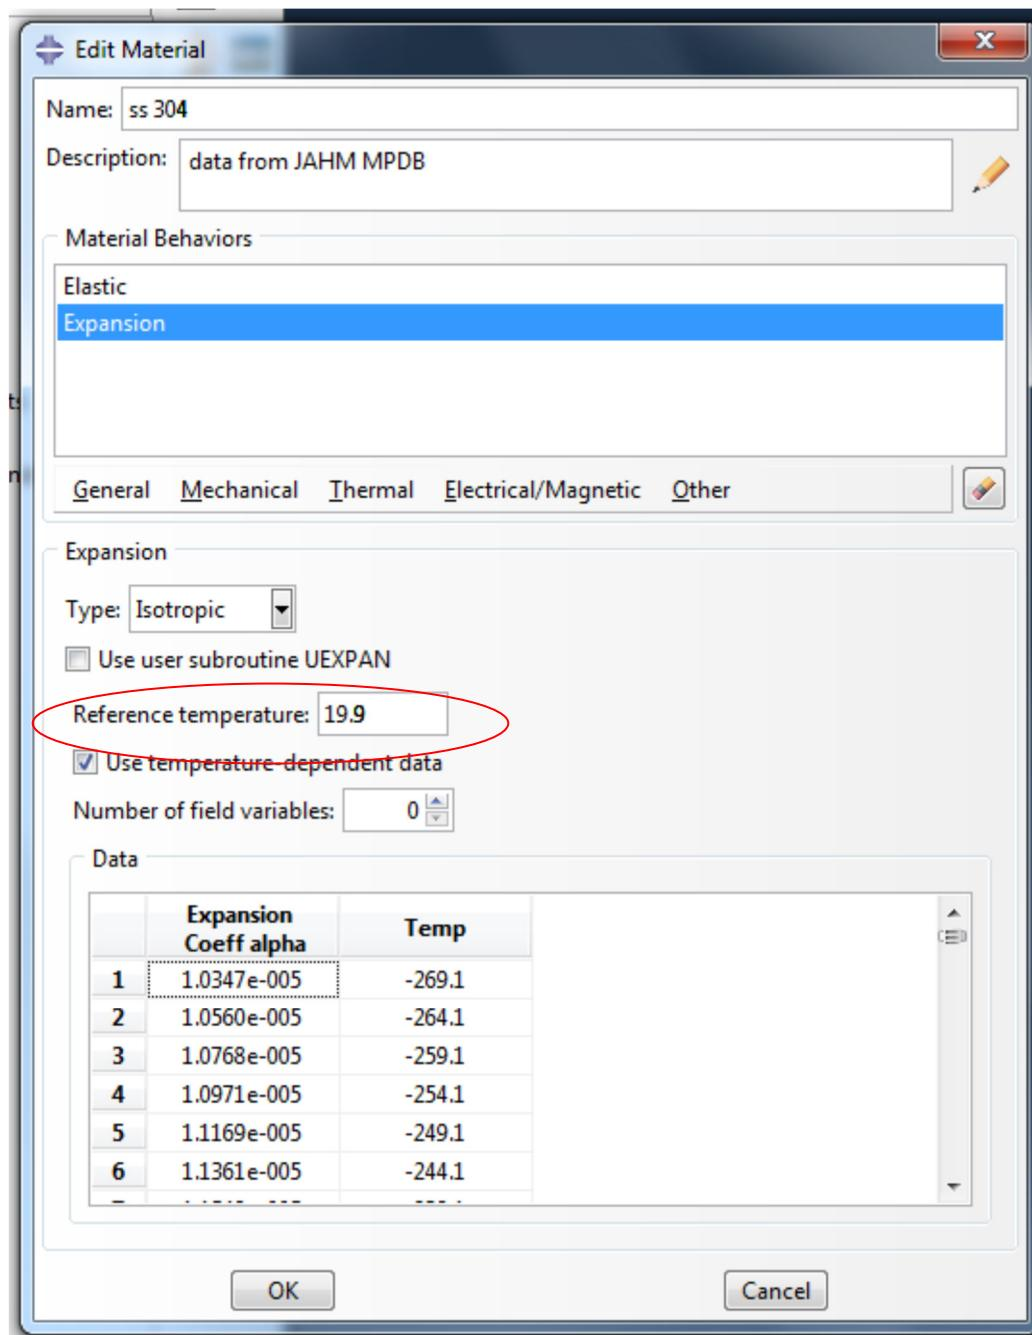

Figure 13.
- h) Repeat the same steps for the expansion data remembering to enter the reference temperature, Figure 13.